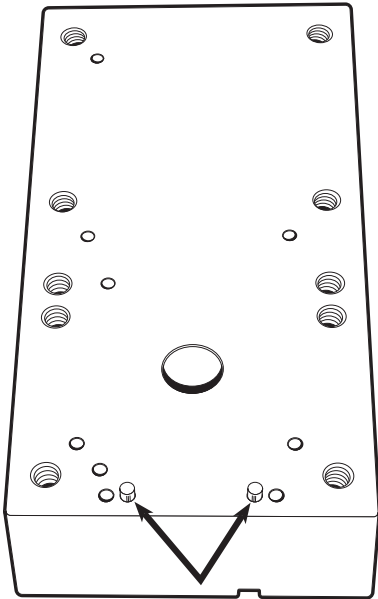

FIGURE 3—Short, bottom locating-pins (P/N 89553).
- The Laser Mount comes with two, short locating-pins (P/N 89553) and two long locating-pins (P/N 11416). Insert the two, short locating-pins in two of the bottom holes (see Figure 3). These are the pins that the bottom of your laser will be located against. We will be using the two inner pin hole for the OPT Laser.